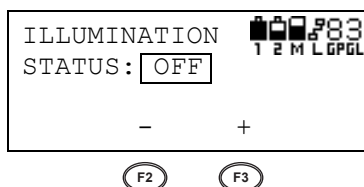

Figure 3-140. Set Illumination
- On the Illumination screen, set the screen's illumination (backlight) at either ON or OFF (Figure 3-140). See "Selecting Parameters" on page 3-10 for details on changing parameters.